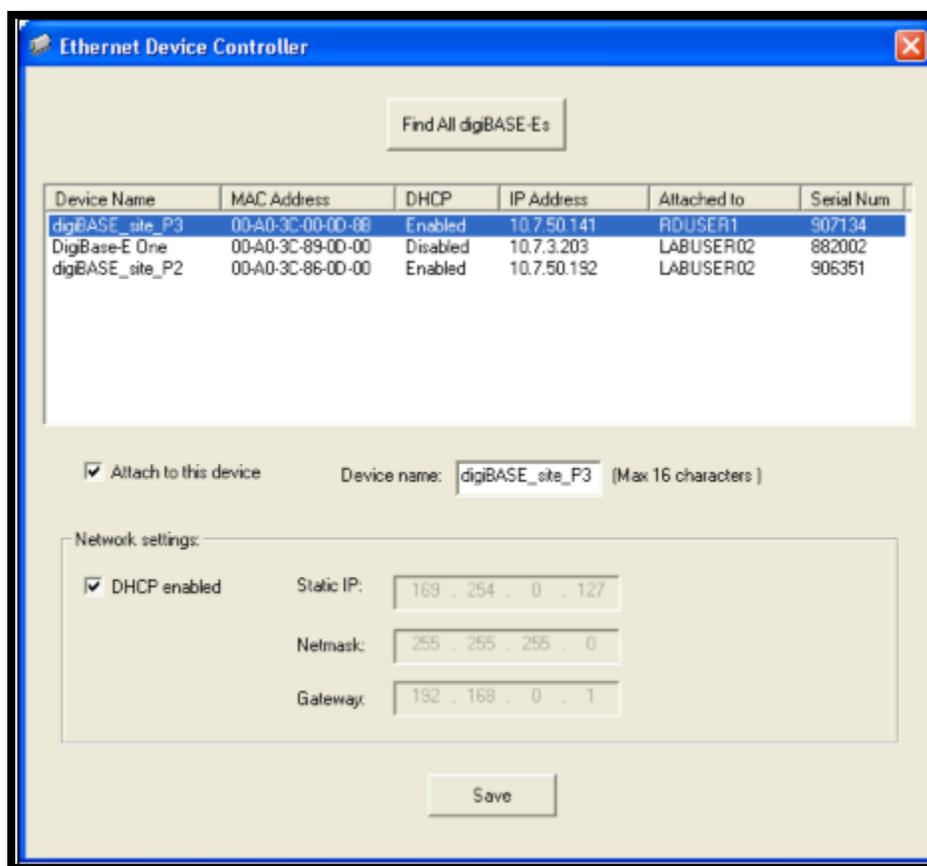

Figure 5. Three digiBASE-Es detected
- Click on the **Find All digiBASE-Es** button. Within 10–20 seconds, the screen will update with all located (powered on) digiBASE-Es. Figure 5 shows a device controller window displaying three digiBASE-Es.